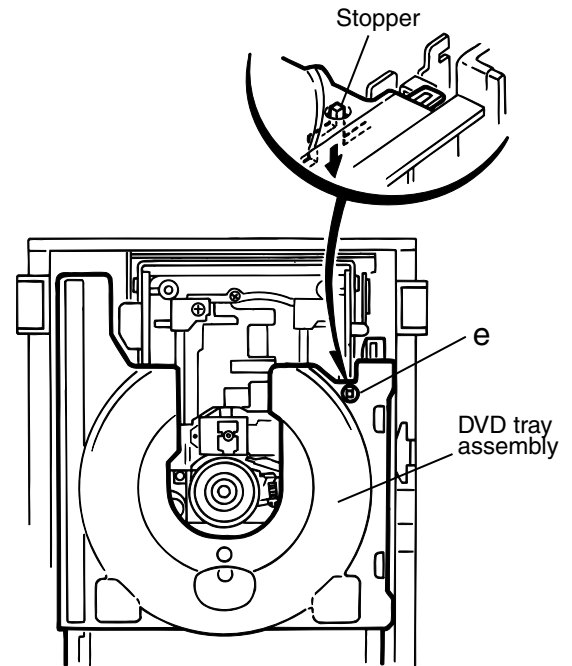

Fig.5
11. Check whether the lifter unit stopper has been caught into the hole at the section e of DVD tray assembly as shown in Fig.5.